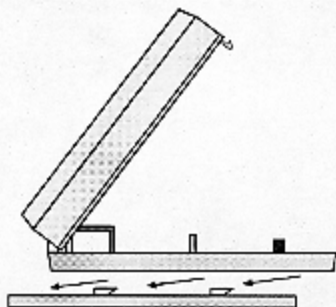

Figure 4 - Attaching Point Transmitter to Mounting Base
- Slide the Point Transmitter over the Mounting Plate to lock it into place (see Figure 4). If connecting an external device, make sure that its wiring is pulled through the Wire Entrance of the Point Transmitter as the Point Transmitter slides onto the Mounting Plate.